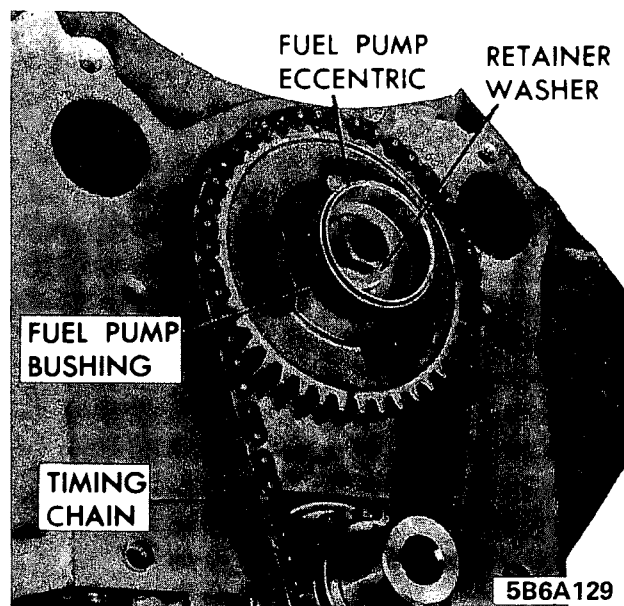

Figure 6A-129 - Fuel Pump Drive
15. If new fuel pump eccentric and bushing are to be installed, remove camshaft sprocket retainer bolt and retaining washer and remove the eccentric and bushing. Place fuel pump bushing over eccentric with rolled flange toward camshaft sprocket. Figure 6A-129.
sprocket using Tool J-22888 (Figure 6A-131). Refer to Figure 6A-132 for correct installation procedure.